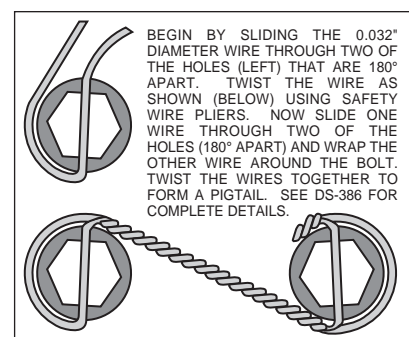

Figure 3. Safety Wire Diagram
- The caliper mount bracket assembly (1) should be installed first with clean, dry threads on the mounting bolts. Install the bracket by sliding bolt (4) through lock washer (2) from the back side through the lower caliper mounting ear on the spindle. Slide bolt (3) through lock washer (2) from a 90° degree angle on the upper portion of the steering arm. The bracket must tighten squarely against the outboard side of the caliper mount bosses on the spindle body. Inspect for interference from casting irregularities, machining ridges, burrs, etc. Later, after the caliper, pad, and rotor alignment has been checked, and any necessary shims have been put in place, the threads of the mounting bolts should be coated with red *Loctite*® 271 and torqued to 65 ft-lbs.
- Install wheel studs (5) into the hub (6). Torque to 77 ft-lb. **NOTE:** There are two (2) five lug patterns in the hub (5 x 4.50 and 5 x 4.75). Make sure of the correct hole pattern for the correct wheel application before installing studs into hub.
- Pack the large inner bearing cone (7) with high temperature disc brake bearing grease (available from your local auto parts store) and install into the backside of the hub (6).
- Install the grease seal (8) by pressing into the backside of the hub (6).
- Pack the small outer bearing cone (14) with high temperature disc brake bearing grease and install into front of hub (6). Slide the hub assembly (5, 6, 7, 8 and 14) onto the spindle. Secure using spindle washer (15), stock adjusting nut and nut locking device. Adjust wheel bearing pre-load per Original Equipment manufacturer (OEM) specifications.
- Install the o-ring (16) on the dust cap (17), and screw dust cap assembly onto the hub (6). Friction created by the o-ring (16) on the dust cap (17) keeps it from unscrewing.
- With the larger I.D. side of the rotor (9) facing away from the hat (10), bolt rotor (9) to hat(10) through the backside of the rotor using washers (11) and bolts (12). Torque bolts (12) to 85 **in-lb**. Safety wire bolts (12) using standard 0.032 inch diameter stainless steel safety wire as shown in Figure 3. Please refer to Wilwood's data sheet DS-386 (available at www.wilwood.com/pdf/ds386.pdf) for complete safety wire installation instructions.
- Slide the rotor/hat assembly over the studs (5) in the hub (6) taking care to align the small countersunk holes in the hat (10) with the small threaded holes in the hub (6). Install three flat head socket head screws (13) through the small holes in the hat (10) and torque to 85 **in-lb**.
- NOTE:** Please reference the caution statement at the beginning of the assembly instructions. With the bleed screws pointing up, mount the caliper (18) onto the caliper bracket (1) using lock washers (19) and bolts (20). Place two .030 thick flat washers (21) between the caliper (18) and the caliper mounting bracket (1) before sliding the mounting bolts (20) all the way into the caliper mounting bracket (1). Finger tight only. View the rotor (9) through the top opening of the caliper (18). The rotor (9) should be aligned in the center of the caliper (18). If not, adjust the caliper (18) by using 0.030 inch thick shims (21) placed between the caliper mounting bracket (1) and the caliper (18). Finger tighten and recheck alignment. Use as many shim washers (21) as necessary to achieve the correct alignment. Apply red *Loctite*® 271 to bolt threads (20) and torque to 42 ft-lb. Safety wire caliper bolts (20).
- Remove the caliper bridge spacer and bolt. Install the disc brake pads (22), then reinstall the caliper bridge spacer and bolt.